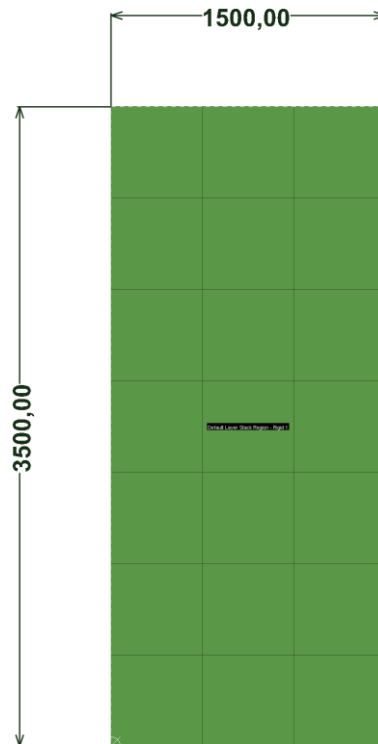

Figure 2. Defining the first Board Region (Mils)
15. Select the Board to see the handles. Modify the existing Board shape to specify the first board region by selecting and moving the Board outline. Refer to the current cursor position in the Status Bar in the bottom left corner or the x, dx, y, dy information in the Heads-Up Display. Use the dimensions below as a reference, Figure 2.